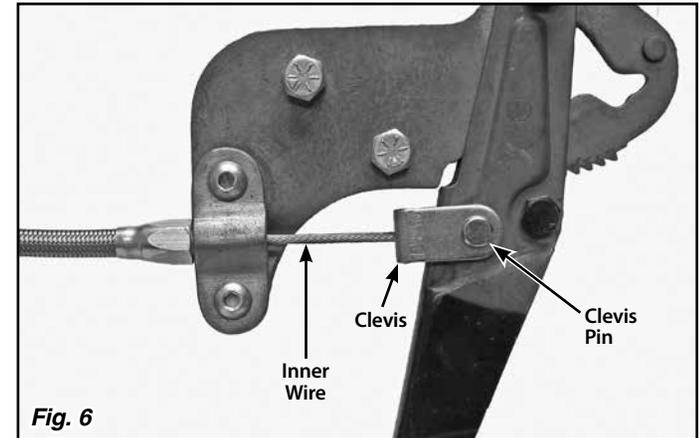
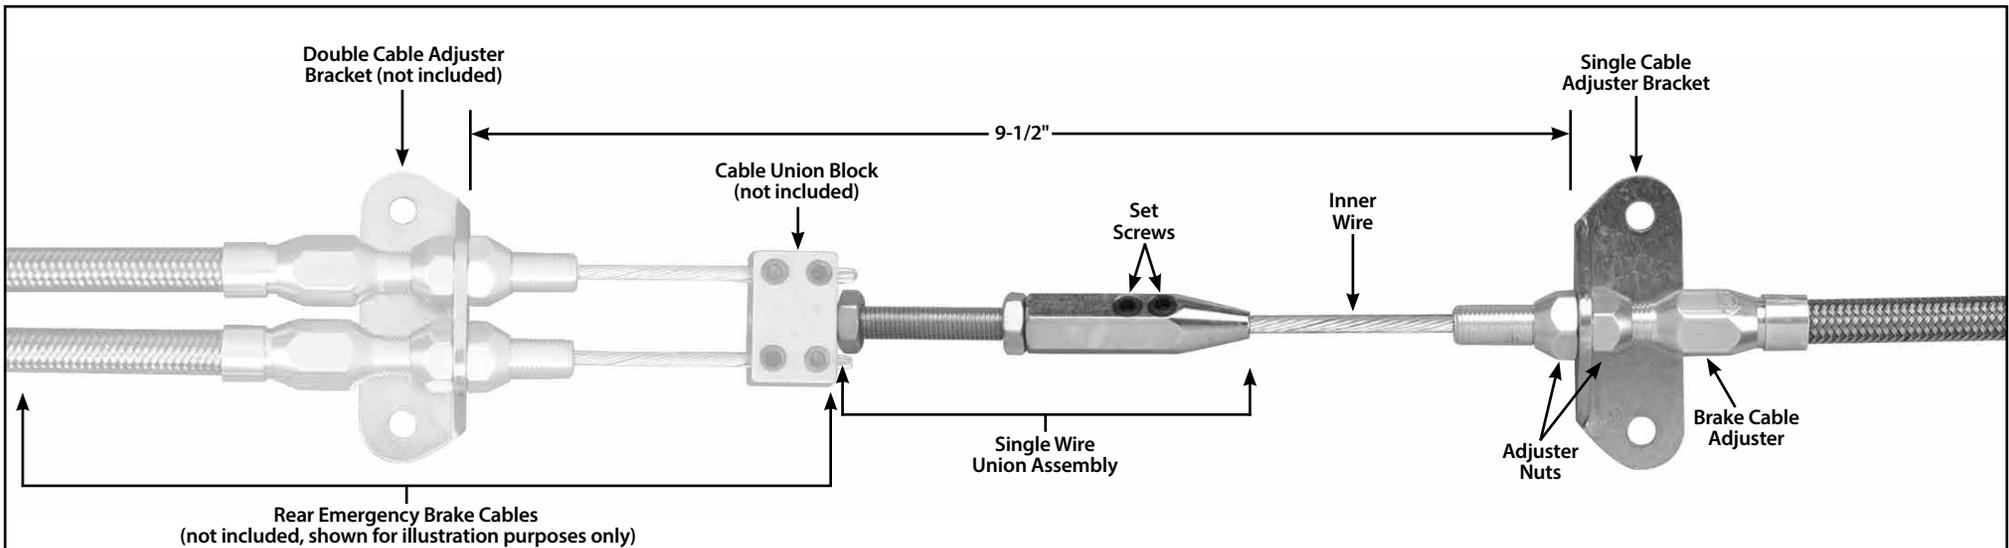

Fig. 6
Fig. 4
Step 4: Determine where the single cable adjuster bracket will be mounted. The single cable adjuster bracket must be aligned with the double cable adjuster bracket (not included, part of the Lokar Universal Emergency Brake Cables available separately) so that the cables are being pulled in a straight line, not at an angle. If you are using Lokar Universal Emergency Brake Cables, the single cable adjuster bracket should be mounted approximately 9-1/2" in front of the double cable adjuster bracket as shown in Fig. 4.
Step 14: Adjust all cables as necessary to remove any slack. **Fig. 4** and **Fig. 6** show the completed assembly.